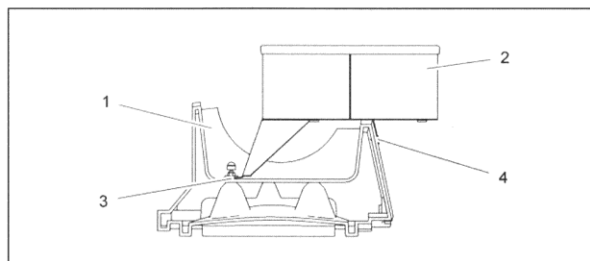

Fig. 4 Mount cleaner holder
1. Bore through the cone-shape deepening of the filter cover (Fig. 4/1) from below with $\varnothing 9$ mm.
2. Place cleaner holder (Fig. 4/2) and align to boreholes (Fig. 4/3). Mark the rear two holes (Fig. 4/4) and bore with $\varnothing 2.5$ mm.